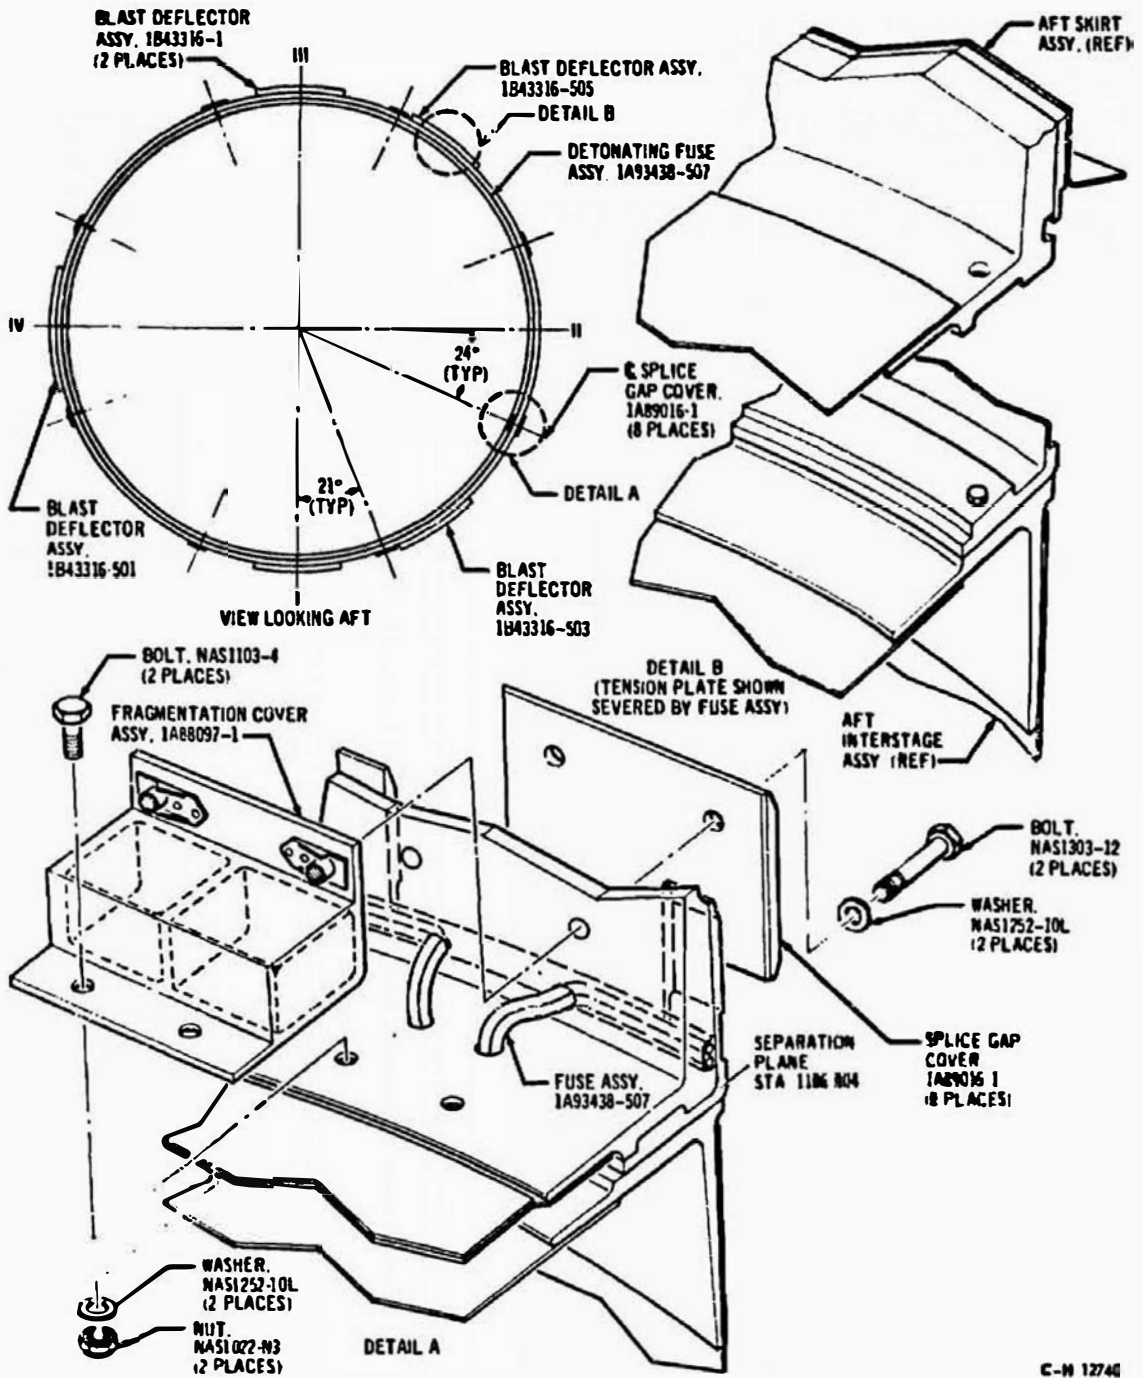

FIGURE K-3 SEPARATION SYSTEM DETONATING FUSE ASSEMBLY - INSTALLATION VIEW
2. **LOCATION:** The MDF is installed in a groove around the base of the aft skirt assembly at vehicle station 186.804. See fig. K-3.